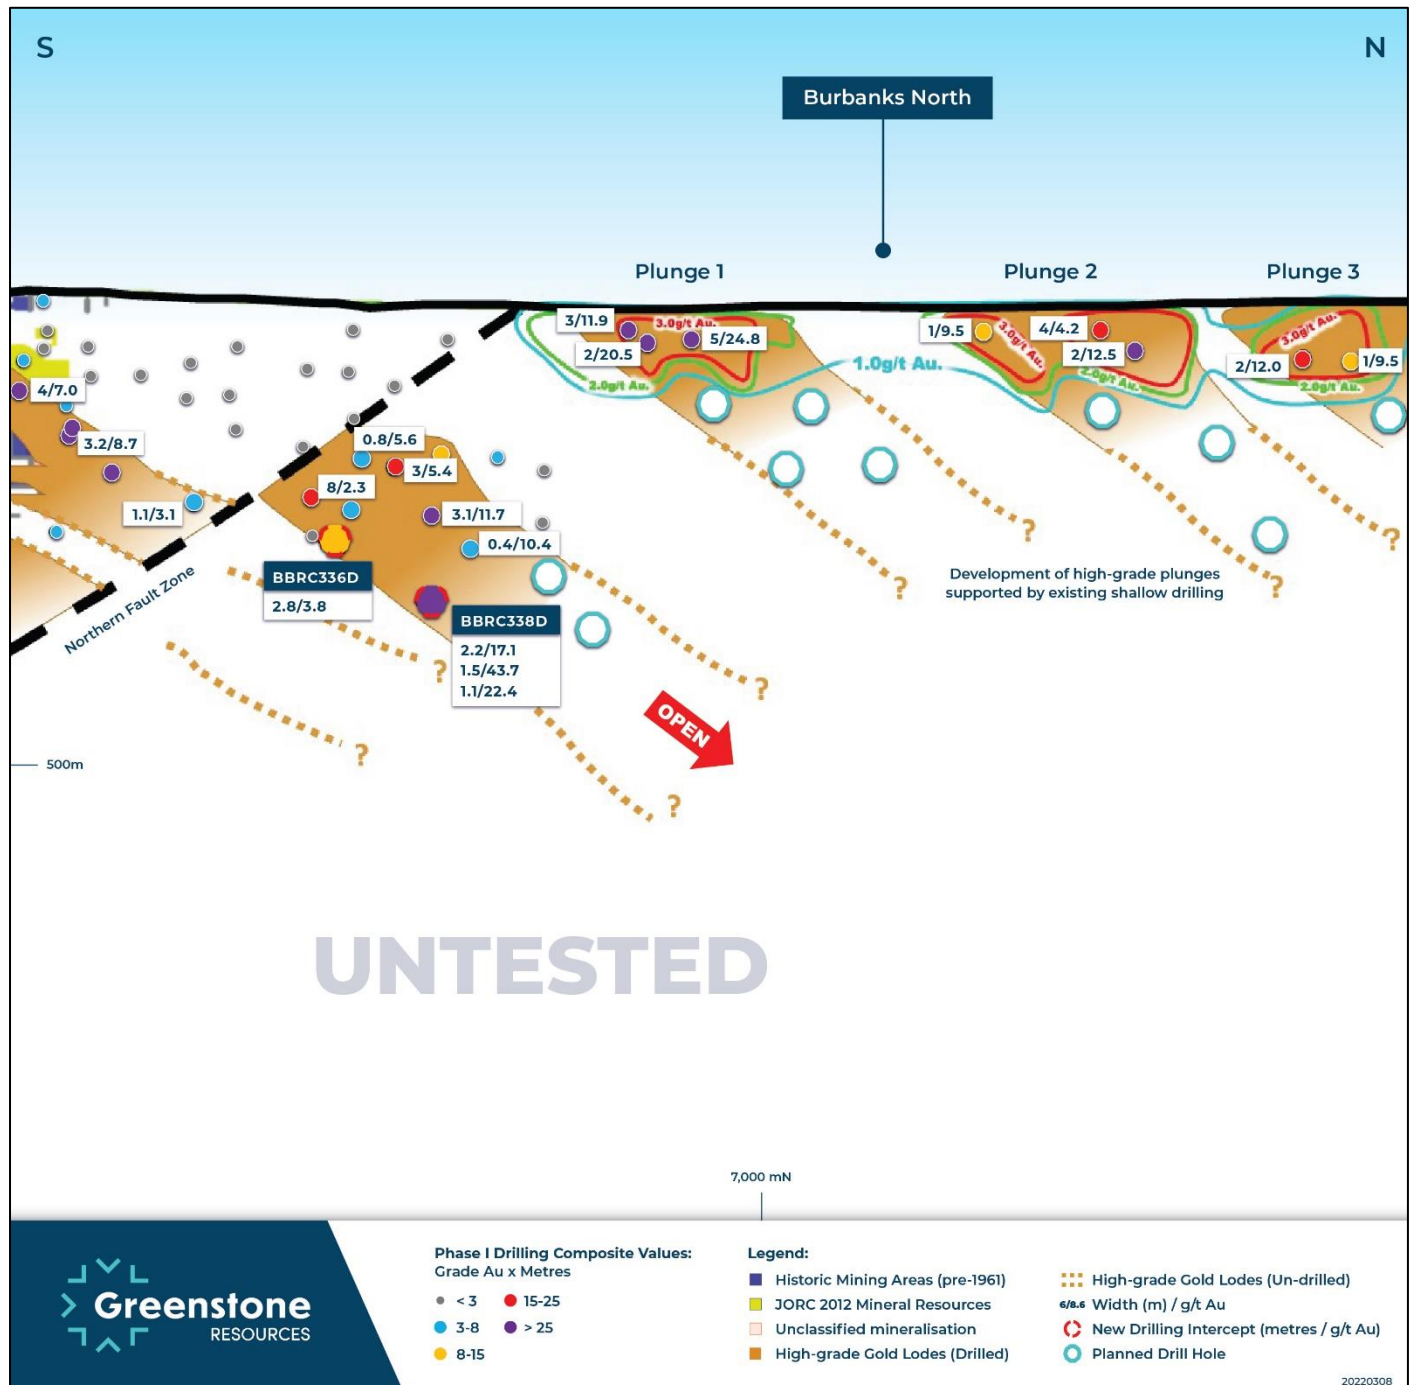

Figure 2: Burbanks North Long section showing recently discovered high-grade mineralisation
Following the receipt of hole BBRC338D, the remaining 15 holes are testing the recently identified high-grade plunges from surface at Burbanks North (Figure 2). These shallow high-grade plunges at Burbanks North were identified late last year following a comprehensive geological re-interpretation of the previously completed shallow drilling supporting the Burbanks North resource. While the previous resource estimation continues to remain robust, the analysis served to identify the development of three high-grade and near surface plunges (Figure 2). These high-grade plunges are directly analogous to those observed within the Burbanks Mining Centre which formed the principal focus of historical mining activities. The multipurpose drill rig has subsequently been mobilised to test these high-grade targets at depth, with the initial seven shallower holes exclusively employing Reverse Circulation (RC) drilling techniques (double shifting) serving to advance the return of final assays.
Outside of the Burbanks Mining Centre, Greenstone controls over 5.0 kilometres of the highly prospective Burbanks Shear Zone which has seen limited exploration below 150 metres, despite hosting known mineralisation, including the shallow Burbanks North Deposit of 359,998 tonnes @ 1.8g/t Au for 20,400 ounces (Inferred). This under explored horizon below 150 metres forms the basis of the current drill campaign at Burbanks North, with BBRC338D targeting the down dip extensions of a new high-grade discovery (see ASX:GSR 15/12/2021) serving to reaffirm the continuity of high-grade mineralisation beyond the Northern Fault which was previously thought to terminate mineralisation north of Main Lode (Figure 2).